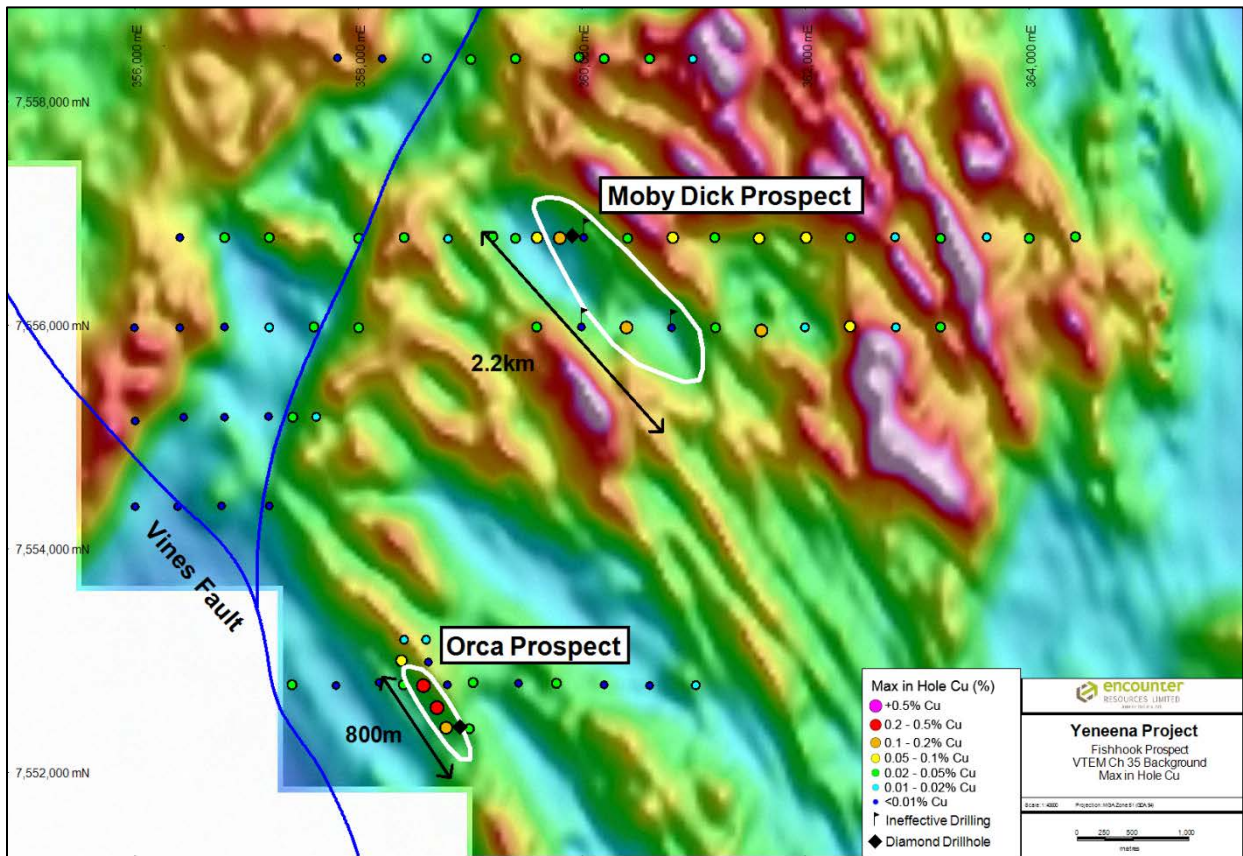

Figure 1: Fishhook project – Moby Dick and Orca prospect location plan
- **Moby Dick target (Figure 1):** This target is a 2km long copper geochemical anomaly coincident with a resistive geophysical anomaly. A diamond drill hole is planned for this target to identify the source of the copper regolith anomaly and to determine if similar mineralisation indicators occur in the Fishhook area as we see in the BM1-BM7 corridor. This will be the first diamond drilling completed in the Fishhook prospect area.
- **Orca target (Figure 1):** This target is located approximately 5km south west of Moby Dick. Aircore and EIS co-funded RC drilling in the area has outlined a north west trending, 800m long copper geochemical anomaly located adjacent to the regionally significant Vines Fault. Previous shallow drilling indicates the anomaly contains copper with assays up to 0.4% Cu, 104g/t silver and end of hole bedrock copper anomalism grading above 0.1% Cu. This target will also be followed up with a single diamond drill hole.